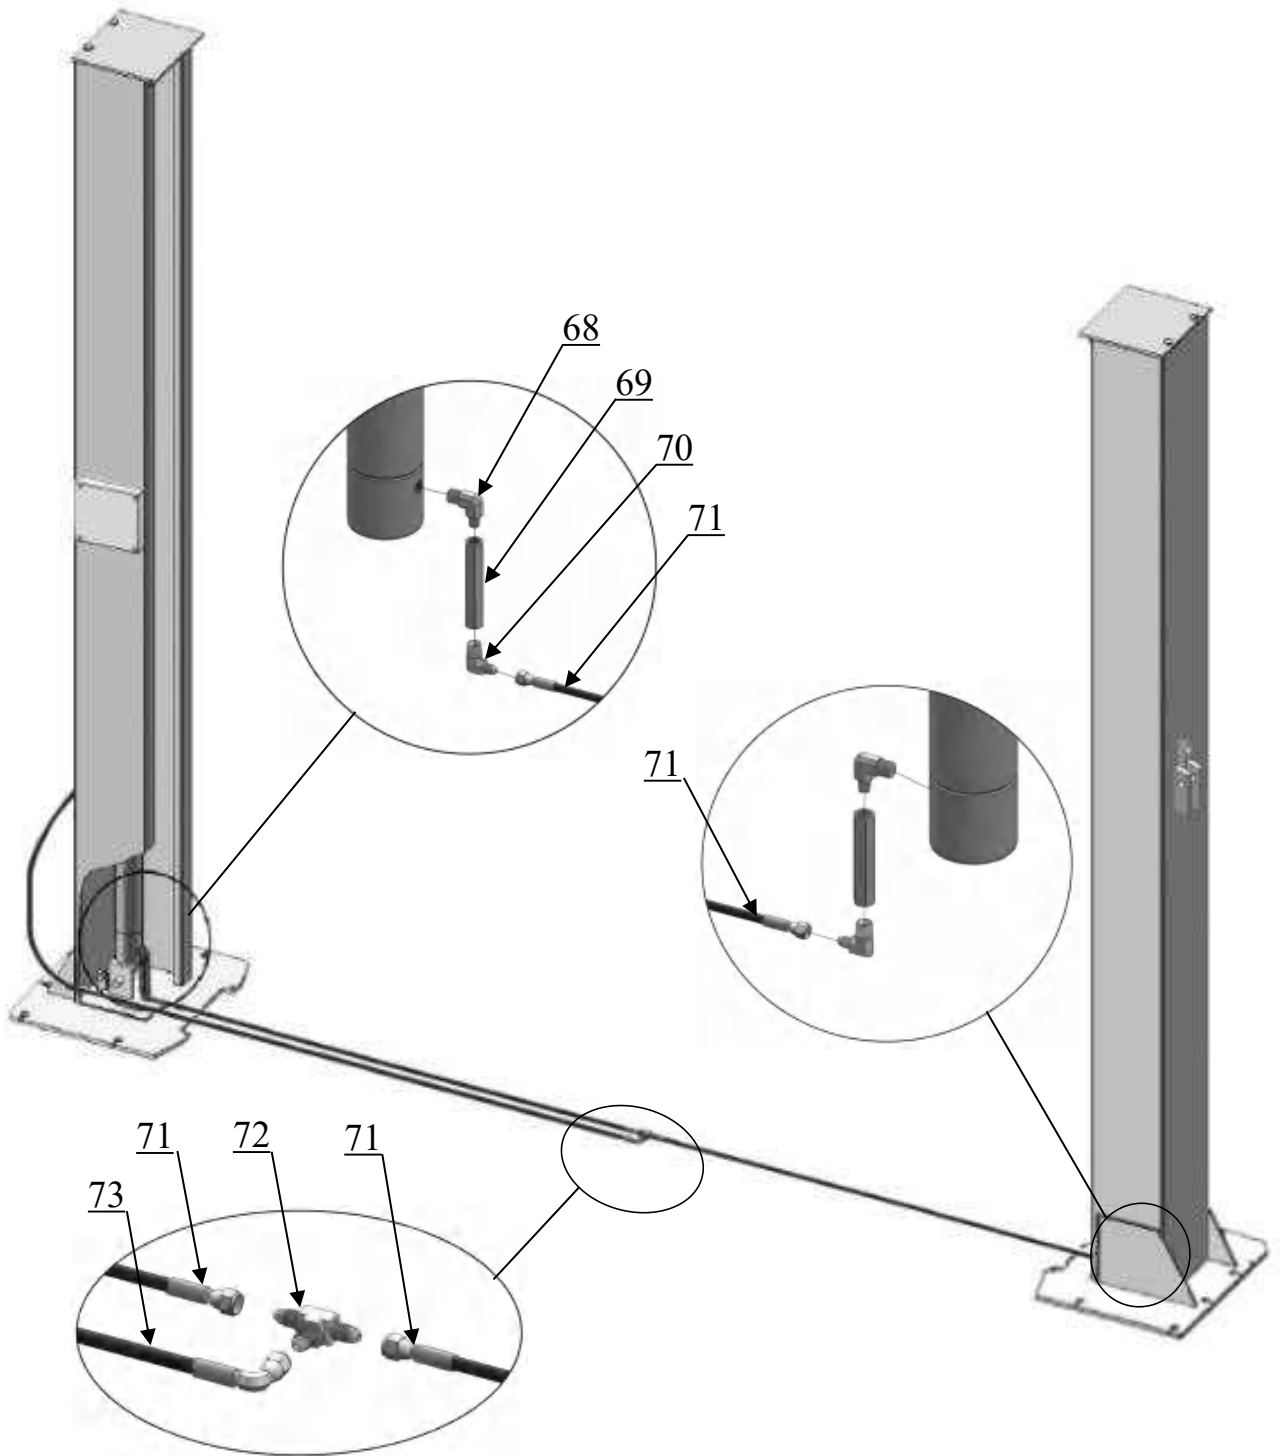

Fig.19
I. Assemble oil hose assy. (See Fig. 19)